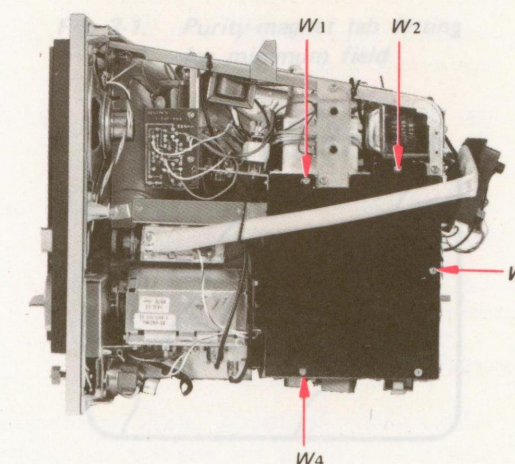

Fig. 2-34. High-voltage cage removal, Step 6
6. Remove the four screws labeled W1-4 in Fig. 2-34.